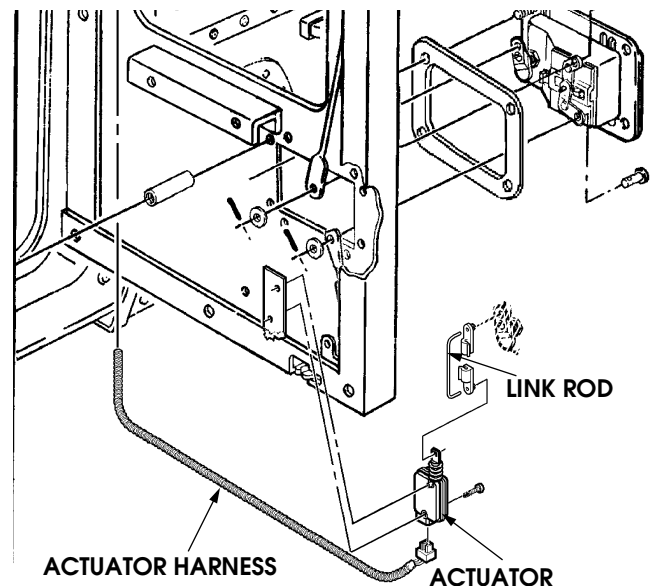

Figure 12-105: Cargo Door Lock Actuator
2. Remove (4) screws and interior door handle.
3. Remove (12) screws securing inner door panel to door.
9. Remove actuator from bracket (Figure 12-105).
5. Install link rod into plastic clip and rotate counter clockwise to lock in place (Figure 12-105).
6. Install inner door pane with (12) screws.
7. Install inner door handle with (4) screws.